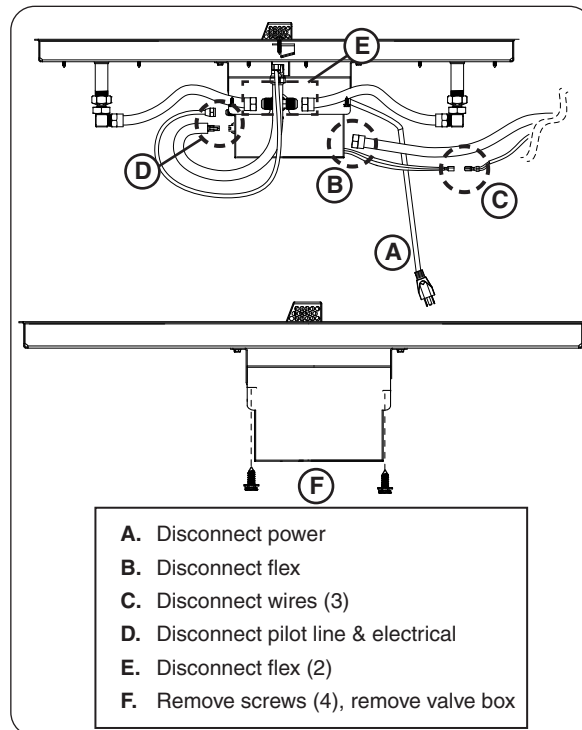

Fig. 42-2 Gain access to valve box
3. Remove the burner and gain access to the valve box as shown in Fig. 42-2.